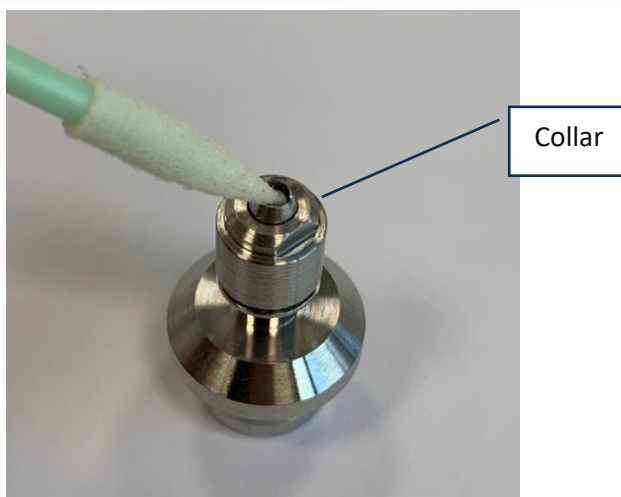

Figure 62 - Cleaning the Nozzle
- 2) Using a non-shedding swab and isopropyl alcohol, thoroughly clean the interior of the nozzle inside the outer collar (this is at the very tip of the nozzle, as shown in *Figure 62*) as well as the front and outer edges of the collar: